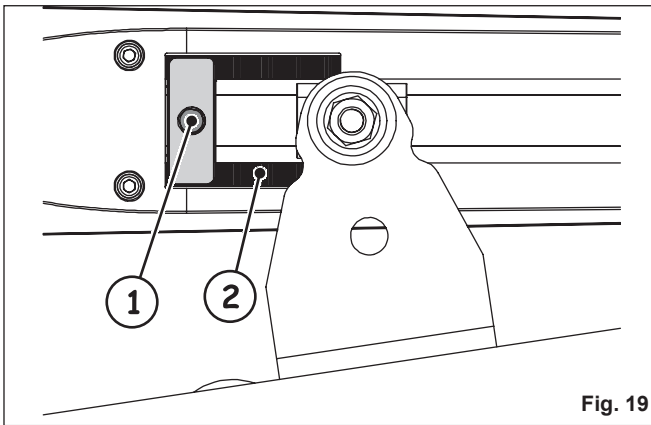

Fig. 19
- Loosen the securing screw, Figure 19 Ref. 1. The screw does not need to be completely removed.
**⚠ The mechanical stop is coupled to a toothed sector, Figure 19 Ref. 2.**